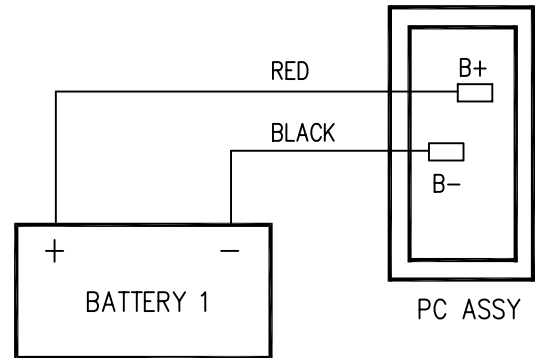

FIGURE 2
8. Install battery and connect using wire assemblies provided as shown in figure 2.